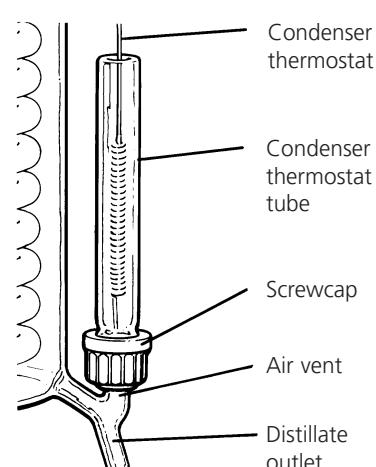

Figure 4a
12. Assemble the condenser thermostat tube A515414 connecting cap QC18/11, silicone rubber ring QR18/7 as shown in **figure 4a**.
If the cap is left loose the assembly may now be carefully slid over the air vent on the distillate outlet - see **figure 4a**. Tighten up the cap once the tube is in place.